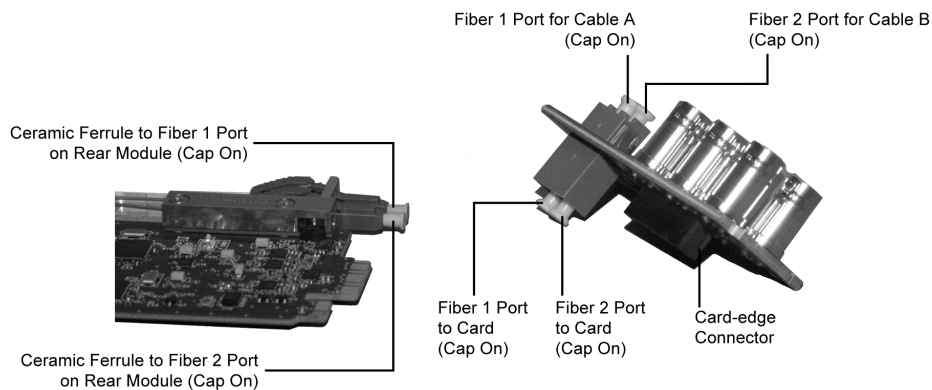
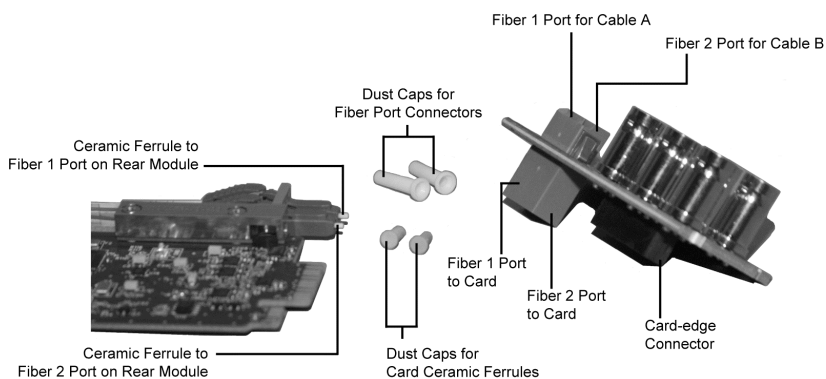
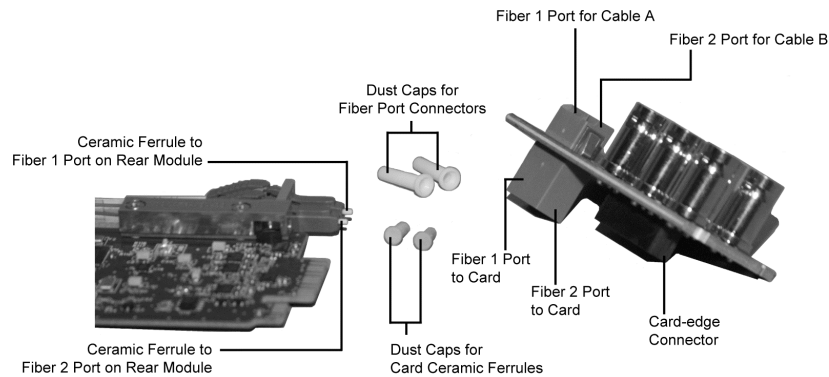

Figure 2.1 Card Connectors with Dust Caps Installed
Figure 2.2 Card Connectors with Dust Caps Removed
Figure 2.3 Card Connectors with Dust Caps Removed
- Connectors must always be inserted into a device or have a dust cap on. Refer to **Figure 2.1** for dust cap locations.
3. Remove the dust caps from the Fiber ports on the Rear Module that faces the interior of the frame. Refer to **Figure 2.1** and **Figure 2.2** for dust cap locations.
- Refer to **Figure 2.1** and **Figure 2.3** for connector location.